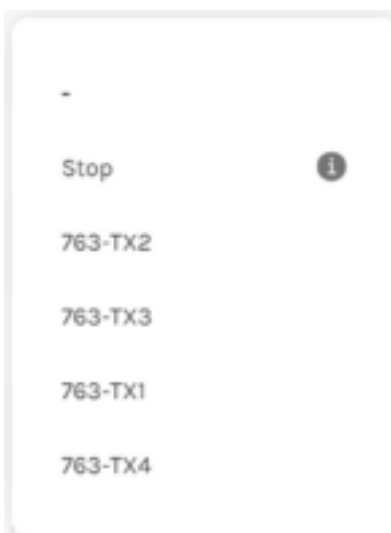

Figure 24
- B.) Selected Connection:** Clicking on this space will display the list of transmitters that are connected to the network and to which the corresponding receiver can be connected, there is also a "Stop" button in case you want to stop the transmission of a connection already made. In addition, There is a dash "-" that can be selected if you want a particular connection not to be affected when making other connections. Figure 24